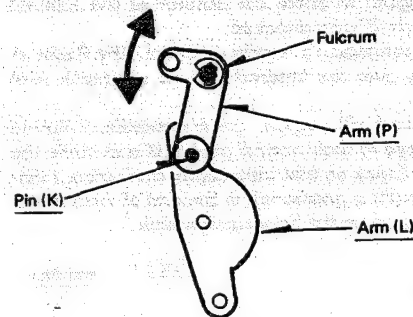

Fig. 18
7. Pin (K) of Arm (L), which engages Arm (P), acts to operate the head selector switch, thus activating the Auto Reverse mechanism in the manner described above (Fig. 18).